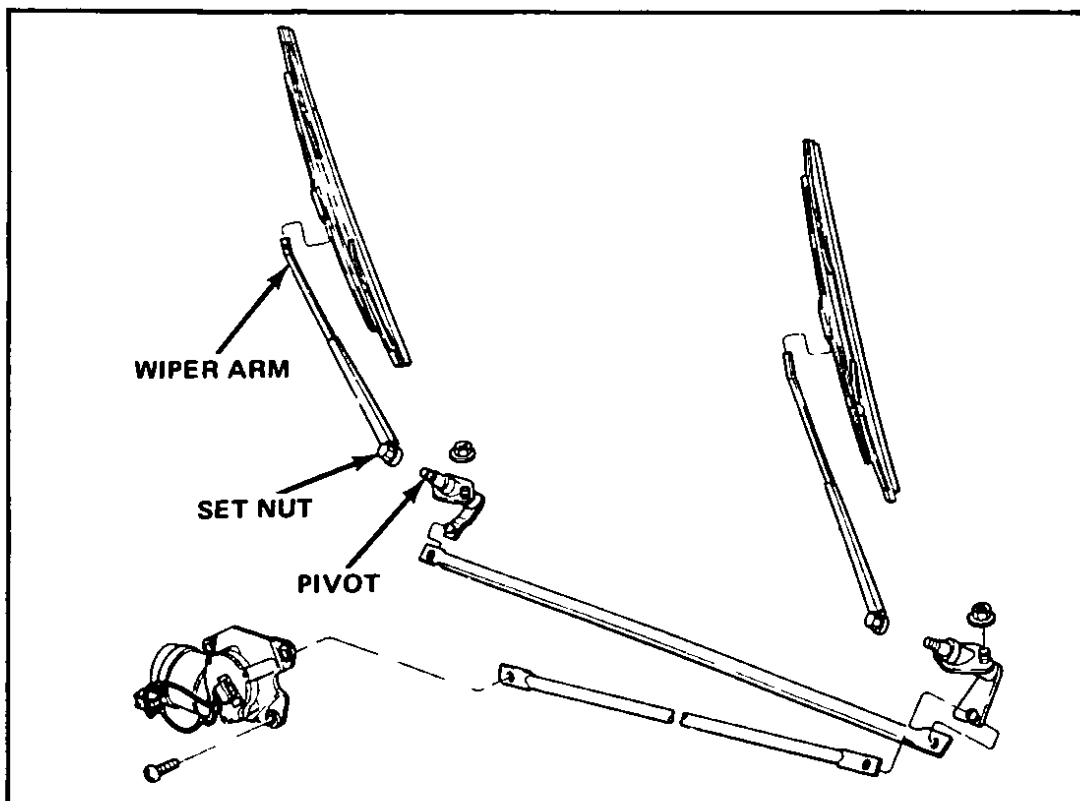

Fig 83 Windshield wiper assembly
- 2 Unscrew the arm set nut. The arm can be then pulled off pivot, Fig 83